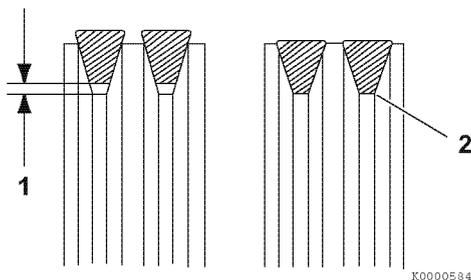

Figure 5-4
3. Tighten the V-belt to the proper tension. There must be clearance (1, **Figure 5-4**) between the V-belt and the bottom of the pulley groove. If there is no clearance (2, **Figure 5-4**) between the V-belt and the bottom of the pulley groove, replace the V-belt.